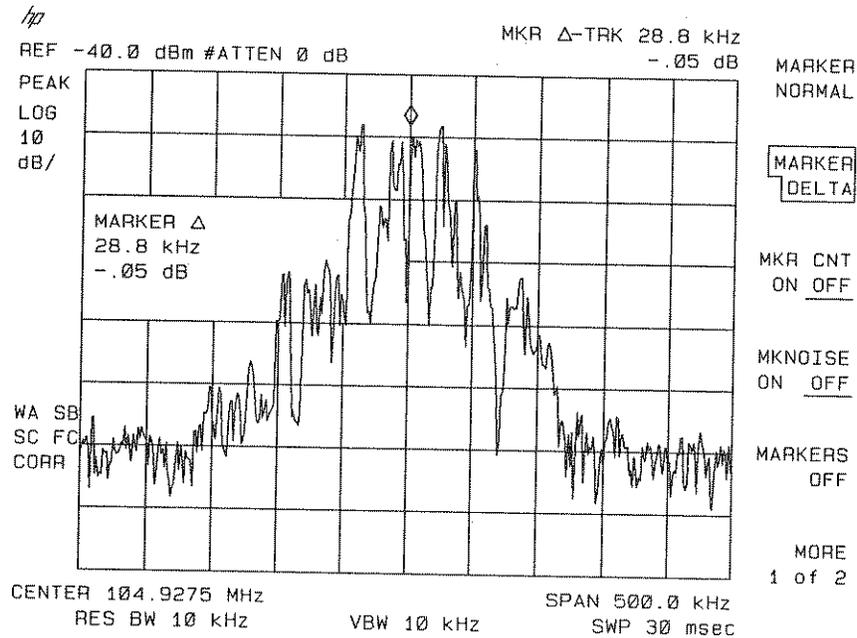

Figure 6-9. Using Signal Tracking to Track an Unstable Signal
5. The signal frequency drift can be read from the screen if both the signal track and marker delta functions are active. Press **MARKER**, **MARKER DELTA**, **SIGNAL TRACK**; the marker readout indicates the change in frequency and amplitude as the signal drifts. (See Figure 6-9.)